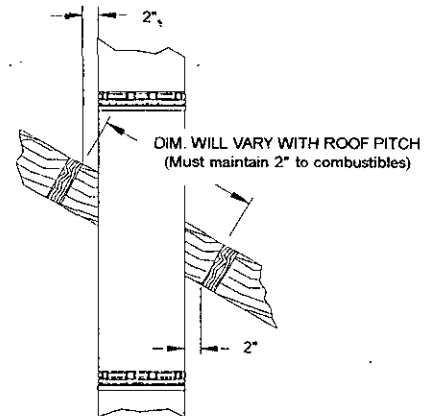

FIG. 19
2. Install the next TG chimney section through the roof. See Figure 19. For 12-inch and 14-inch chimneys only, install a radiation shield (TGRSH) over the chimney section so that the shield straps can be temporarily bent over the roof to hold in place. After installing the flashing, these straps will be attached to the flashing as shown in Figure 20: